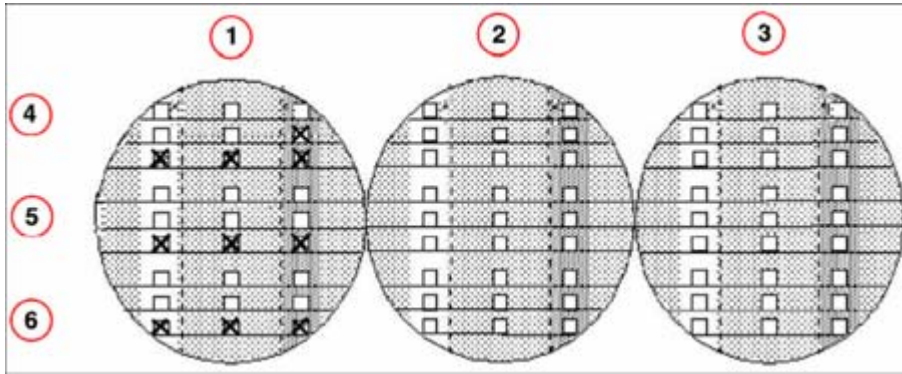

Fig. 5: Monitor image
- Check off non-visible plexi capillaries in \(Fig. 5 / p. 34\) (from left to right 2L - 1 - 5R).
- ➡ The plexi capillaries not identified in \(1/Fig. 5 / p. 34\) must be visible.